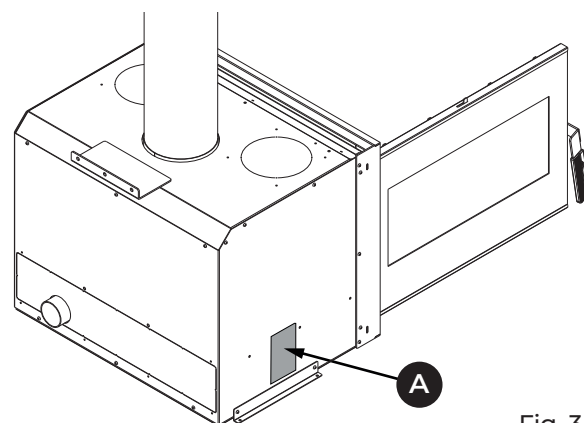

Fig. 3.1
The serial identification plate (A) is positioned on the side (Fig. 3.1) and shows all the characteristic data relating to the appliance, including details of the Manufacturer, the Serial number and the CE marking.